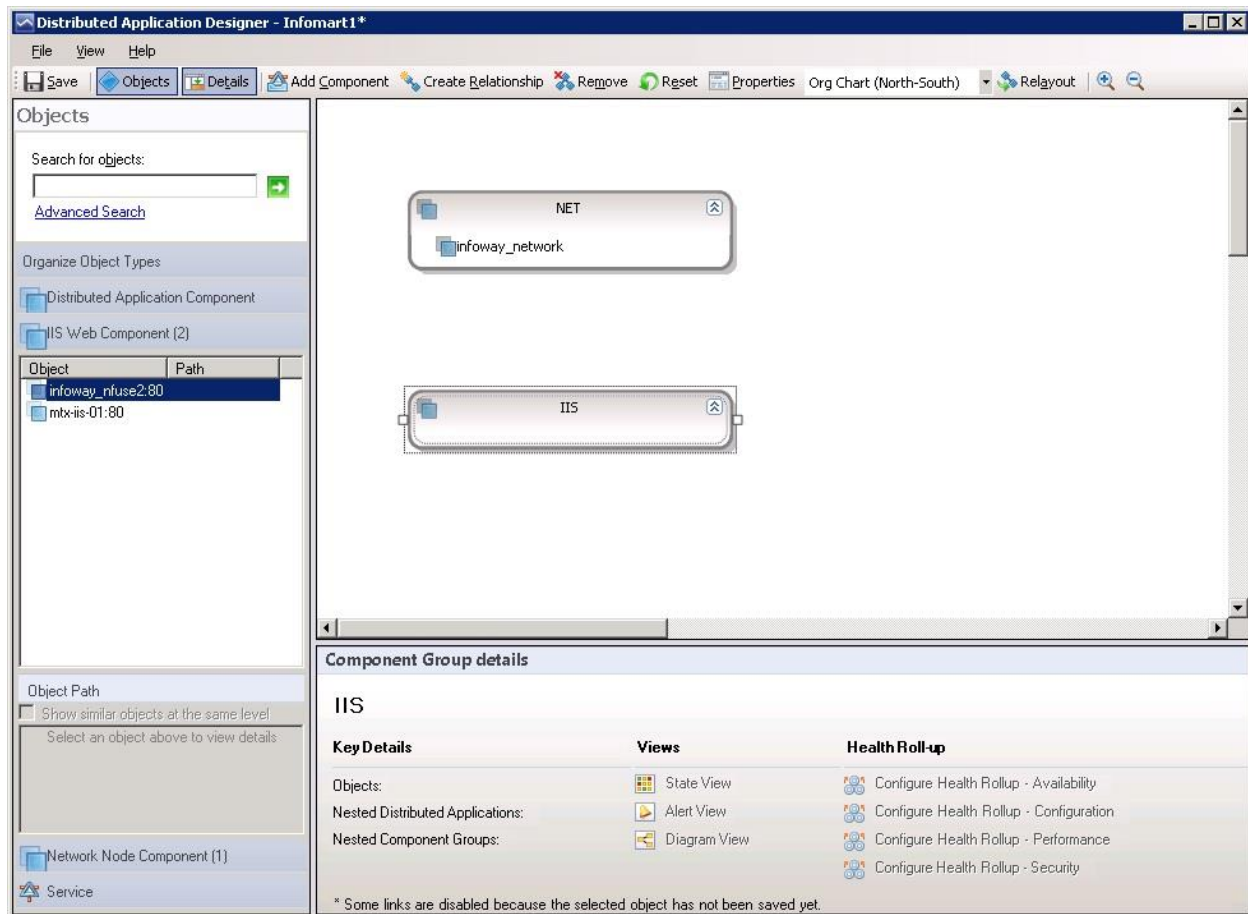
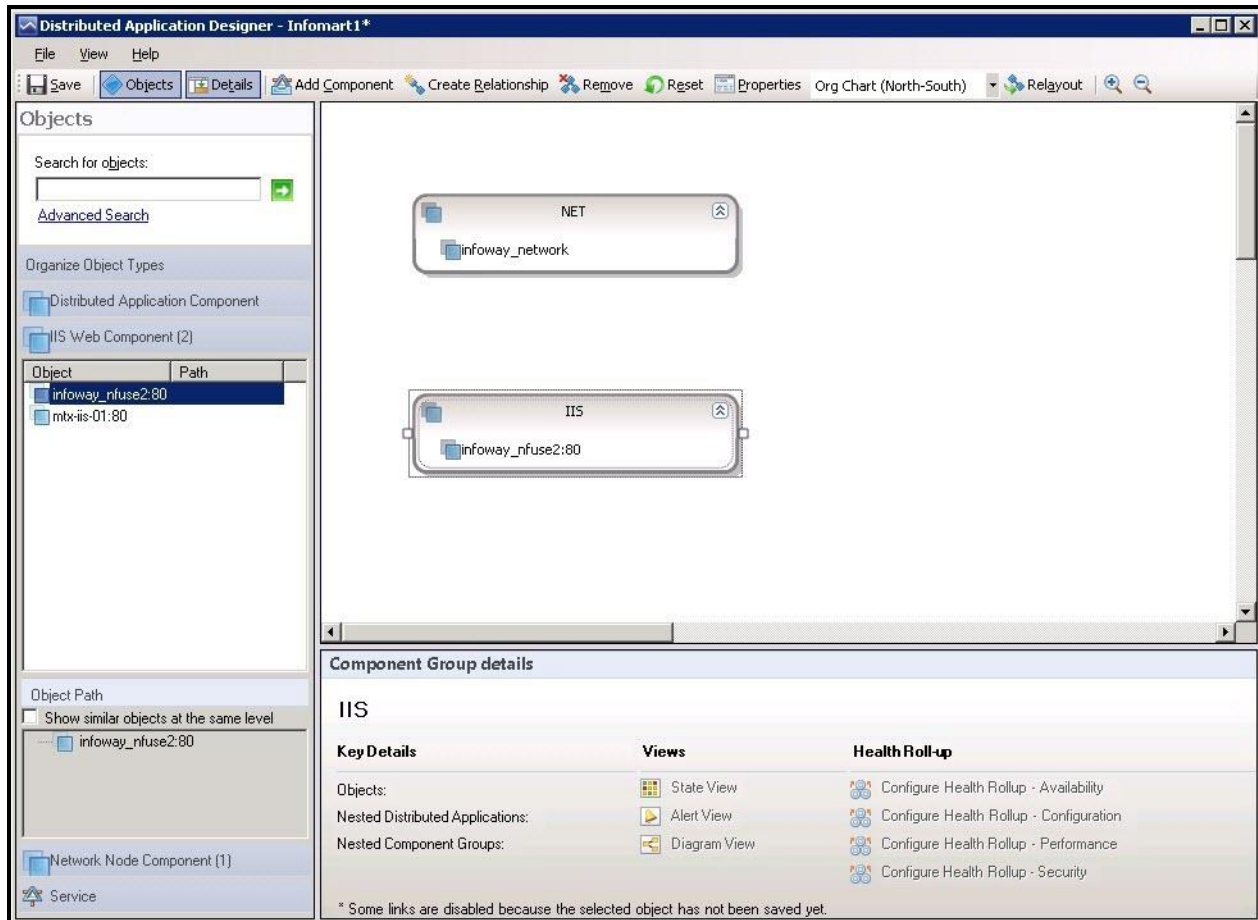
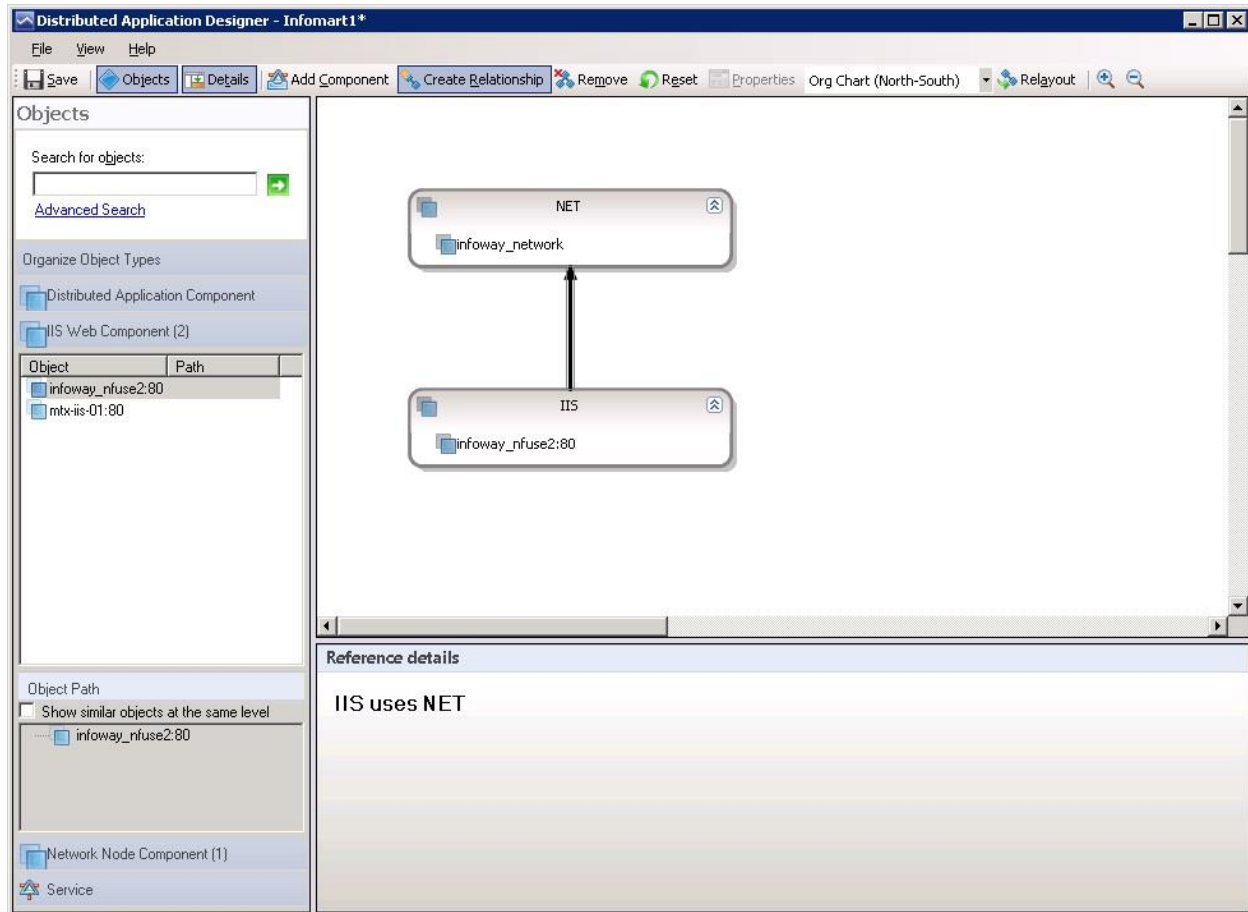

Figure 3.33: The IIS Web Component group appearing in the Designer window
Figure 3.34: Adding the *infoway_nfuse2:80* component to the IIS component group
Figure 3.35: Creating a relationship between the IIS and NET components
10. The **Distributed Application Designer** window now reappears displaying a separate box for the **IIS** component group that you just created (see Figure 3.33). In the left panel of Figure 3.33, click on the **IIS Web Component** section (as indicated), select the *infoway_nfuse2:80* component from the web server list that appears, drag it, and drop it into the **IIS** box (as shown by Figure 3.34).
11. Now, proceed to create a relationship between the IIS web component and the Network node component. For this, click on the **Create Relationship** button in Figure 3.34, and then draw an arrow connecting the IIS box in the **Designer** window with the NET box, as depicted by Figure 3.35. Since IIS is dependent on the NET component in our example for its functioning, the direction of the arrow should indicate the 'Uses' relationship – i.e., the arrow head should face the NET component. Once done, you can look up the **Reference Details** section of the **Designer** window to know whether the intended relationship has been established between the two components. For instance, in the case of our example, if this section displays the message, **IIS uses NET**, it is a clear indication that your 'relationship configuration' is correct.